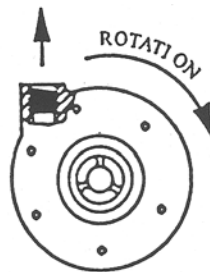

Figure 1: Direction and Port Location
3) When the pump is ready to run, bump start the motor to check rotation and configuration. (*see Figure 1.*) Operating the pump in reverse rotation will result in reduced performance, and will damage the pump.